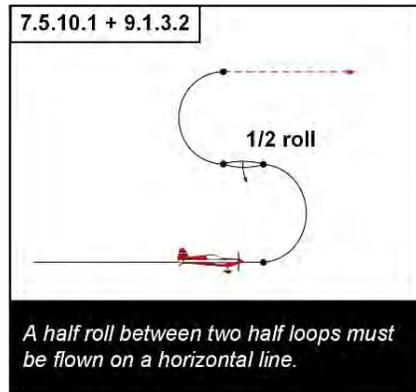

Figure 41
before or after the half roll. However, the half roll is flown on a horizontal line which begins as soon as the first half-loop is finished. As soon as the half roll is finished, the next half-loop must begin immediately (Fig. 41). Adding a line at either of these points is at least a two (2) point deduction, depending on the length of the line.